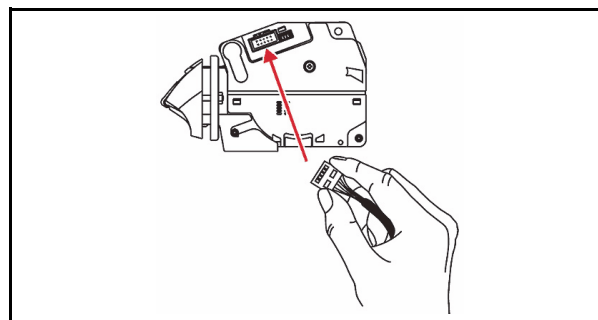

Figure 2-8 Attaching a Taiko Power Connector
2. Insert the new Power Harness Socket into the right side Panel Interface Connector of the Taiko™ Unit Body (See Figure 2-8).